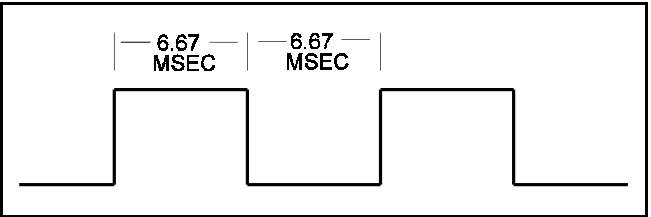
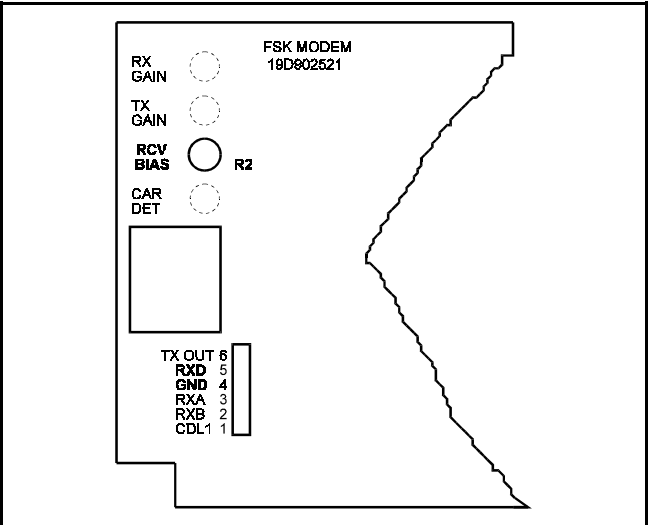

Figure 2 - RXD 75 Hz Symmetry
Figure 3 - FSK Modem Component Location
- 2. Adjust RCV BIAS control R2 on FSK Modem to achieve 50/50% symmetry of 75 Hz square wave. (See Figure 2). High & Low" should equal 6.67 milliseconds. Note: An extender board may be necessary to gain access to R2. See Figure 3.